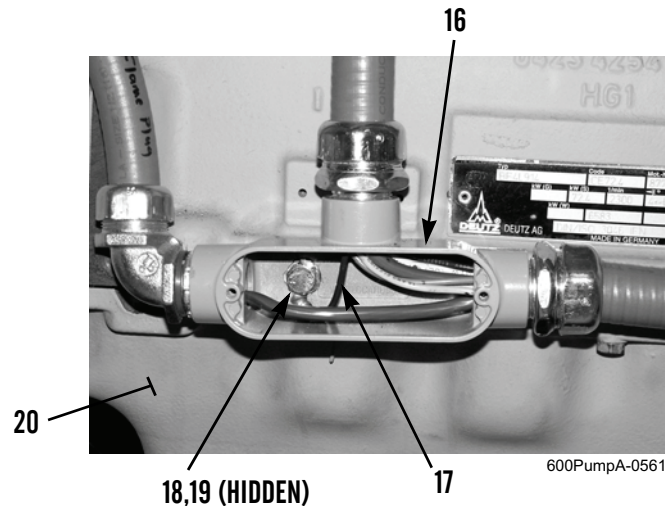

Figure 6. Wiring Harness Tee Fitting.
12. Remove cover of tee fitting (Figure 6, Item 16), bolt (Figure 6, Item 18), ground wire (Figure 6, Item 17), and three spacers (Figure 6, Item 19) from engine block (Figure 6, Item 20).
2. Position three spacers (Figure 6, Item 19) and tee fitting (Figure 6, Item 16) at engine block (Figure 6, Item 20) and install ground wire (Figure 6, Item 17) and bolt (Figure 6, Item 18). Install cover on tee fitting.